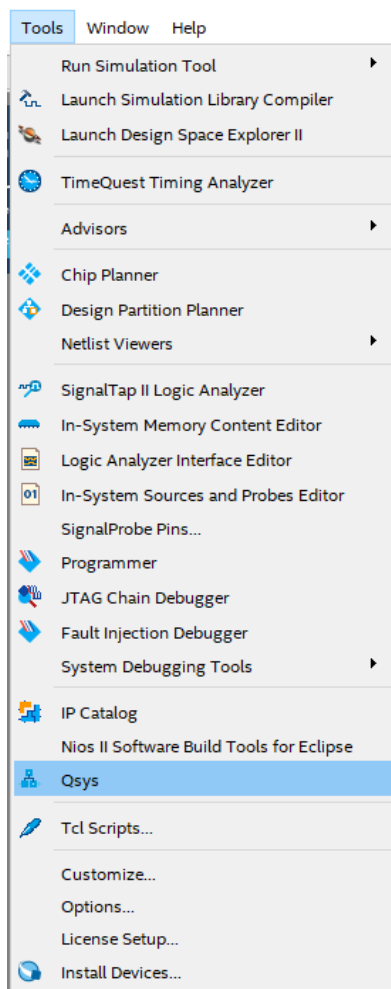

Figure 35 : QSYS Menu
1. Open Quartus Prime. Click at Tools -> QSYS as shown in the Figure 35.